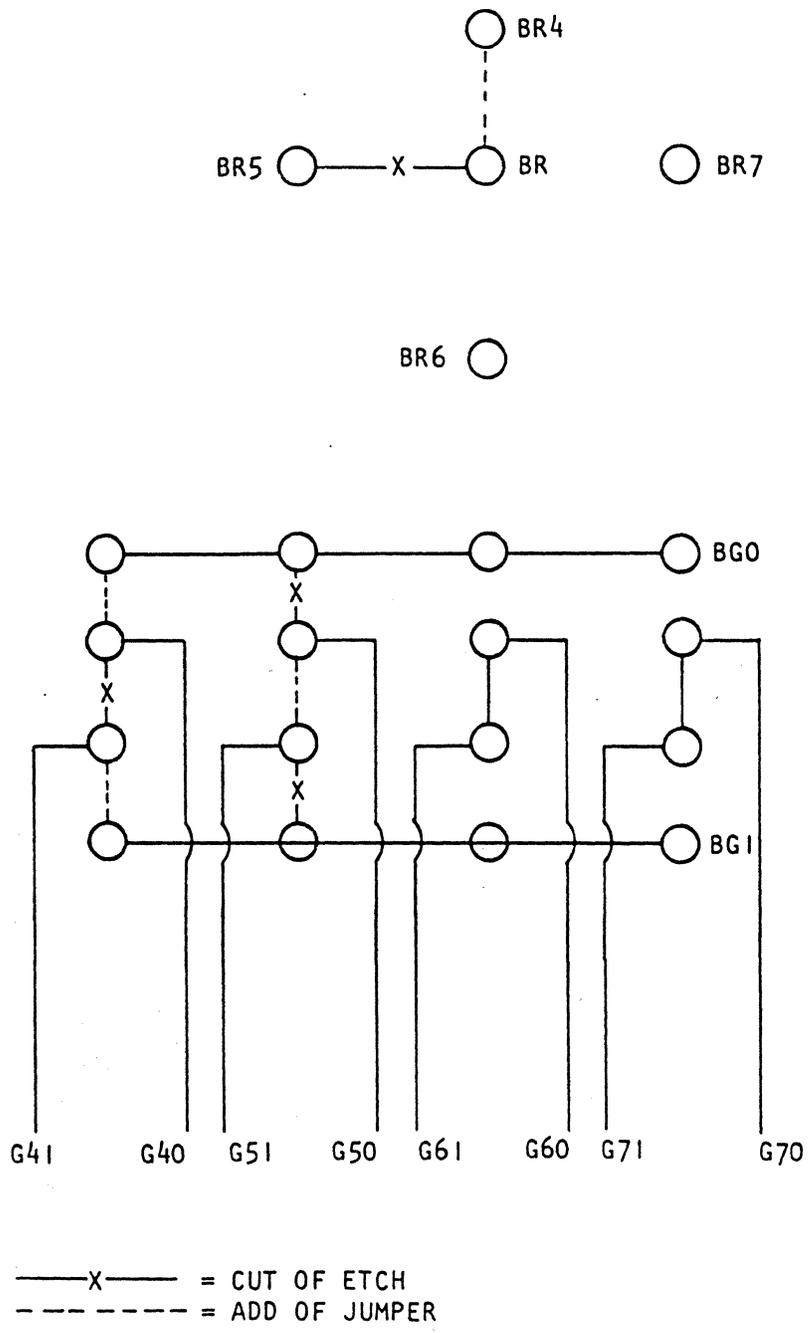

Figure 2-5. PDP-11 Interrupt Priority Level Jumpers
- a. Refer to the PDP-11 Interface card and Figure 2-5. On the lower right hand corner of the board, the etch between BR and BR5 must be cut.
- h. Connect desired GXO to the desired GXI. Figure 2-5 shows the changes required to change priority to level 4.